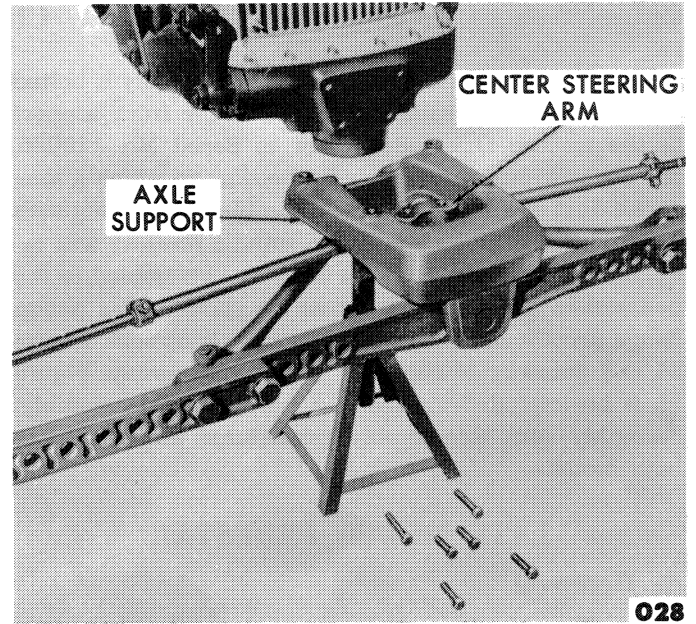

Figure 13—Installing Wide Adjustable Front Axle
1. Using a suitable jack or hoist, raise the tractor front end high enough to take the weight off the front wheels and place a jack stand under the radius rod at the support connection as shown in Figure 13.
1. Raise the front end of the tractor high enough to clear the axle support and roll the axle assembly into position. Stabilize the axle assembly with a jack stand as shown in Figure 13.